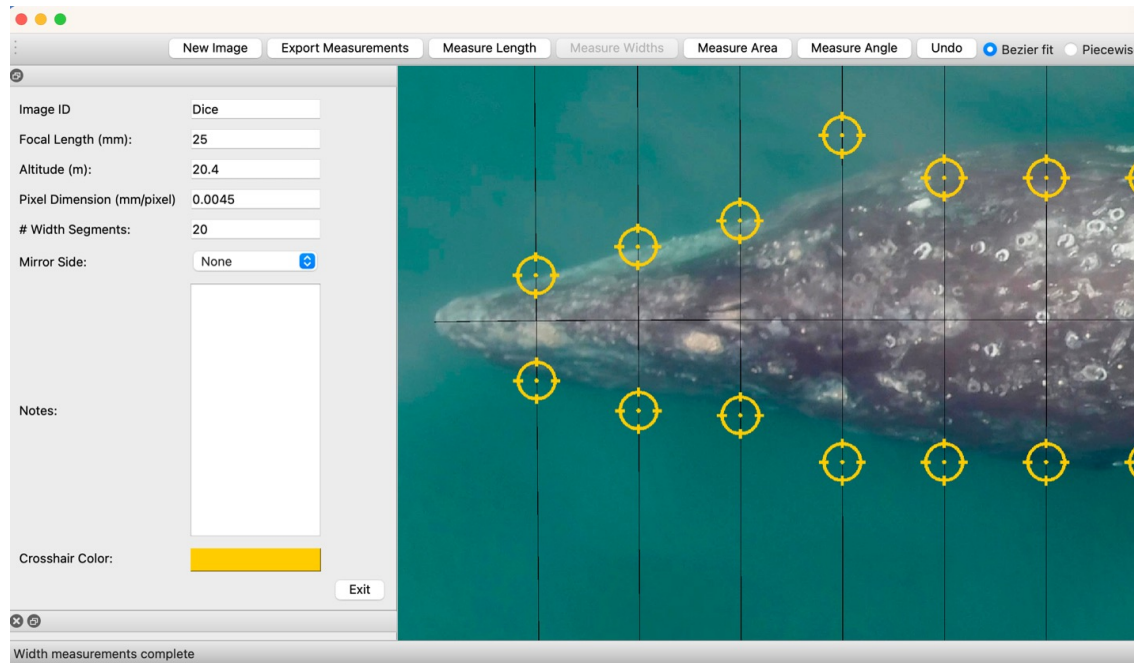

Figure 10. Slide each crosshair width point to the edge of the whale to measure the width at each increment of total length.
- Zoom in and slide the crosshairs along the perpendicular width line to the edge of the whale on both sides (Figure 10).